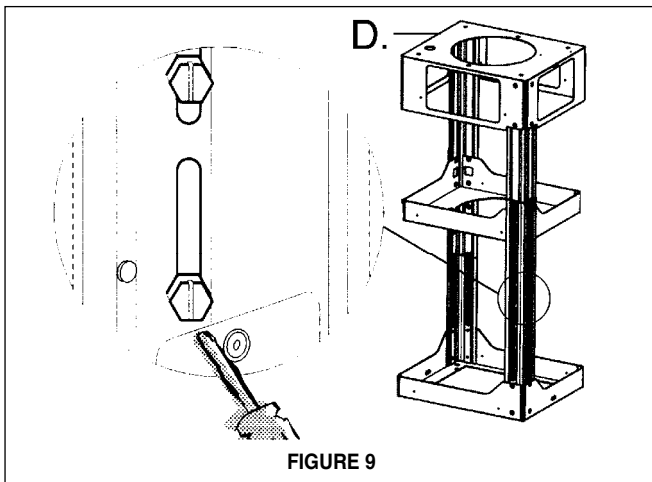

FIGURE 9
6. Determine the proper location for the Power Supply Cable as indicated on the template. Use a 1 1/4" Drill Bit to make this hole. Run the Power Supply Cable. Use caulking to seal around the hole. **DO NOT turn on the power until installation is complete!** A knockout is provided at the top of the CHIMNEY SUPPORT (D in FIGURE 9).
8. Attach the CHIMNEY SUPPORT (D in FIGURE 9) to the ceiling. Make sure that the support is firmly attached to the ceiling. Determine the desired length of the support structure and adjust the length of the support by removing the four screws (indicated in FIGURE 9) with a flat head screwdriver. Once the length of the support is determined, install and tighten the four screws.